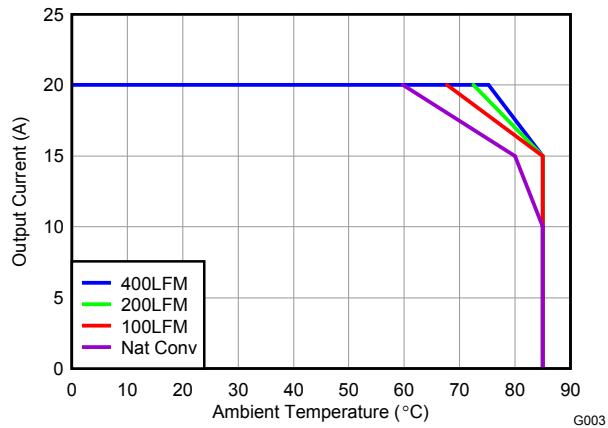
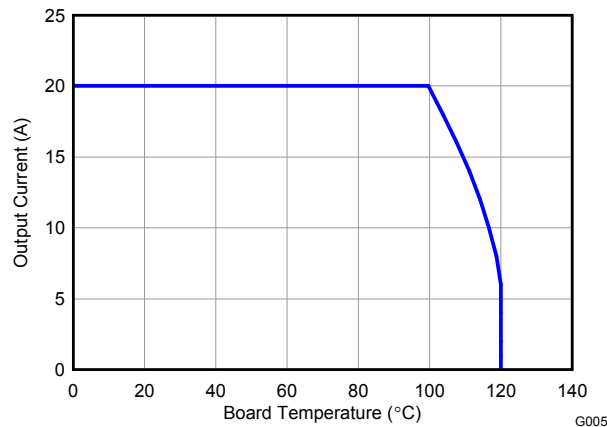

Figure 3. Safe Operating Area – PCB Vertical Mount(1)
Figure 5. Typical Safe Operating Area(1)
The SOA curves in the CSD86330Q3D data sheet provides guidance on the temperature boundaries within an operating system by incorporating the thermal resistance and system power loss. Figure 3 to Figure 5 outline the temperature and airflow conditions required for a given load current. The area under the curve dictates the safe operating area. All the curves are based on measurements made on a PCB design with dimensions of 4" (W) × 3.5" (L) × 0.062" (T) and 6 copper layers of 1 oz. copper thickness.